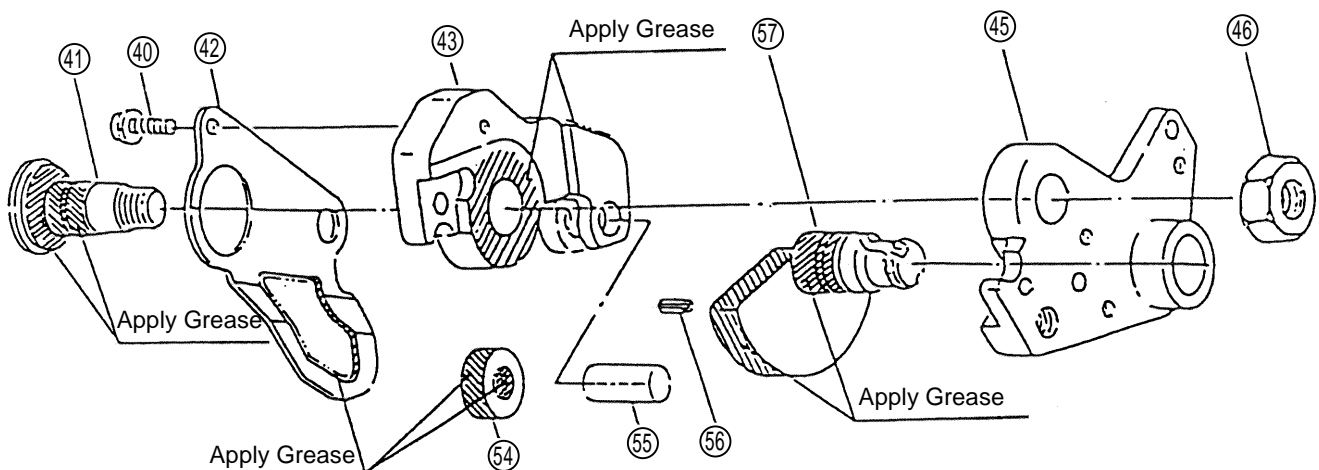
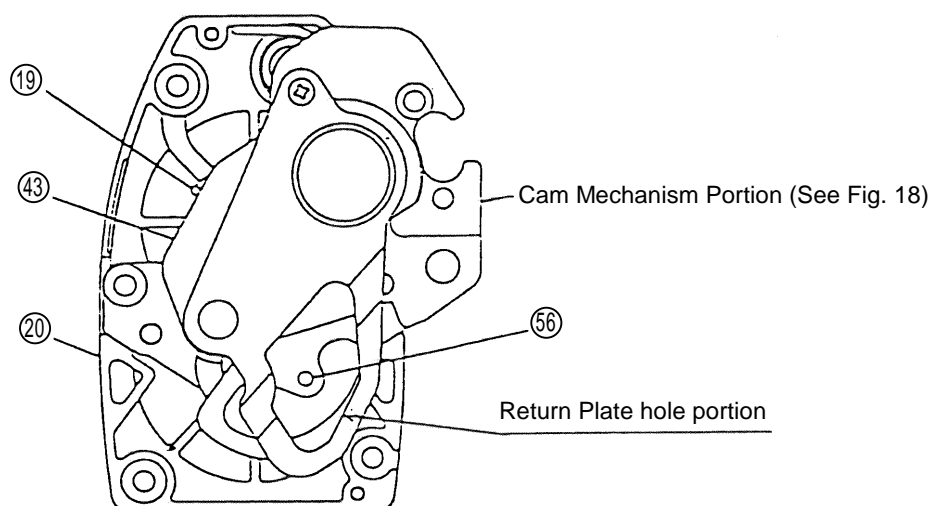

Fig. 18 Cam Mechanism Section
Fig. 19
(3) Reassembly of the Cam Mechanism and Related parts:
- (a) Application of Grease: (See Fig. 18)
Apply Molub Alloy #771-1 grease to the shaft, holes, and both side surfaces (portions marked by hatching and broken-dot lines) shown in Fig. 18. In particular, liberally apply grease to the grooves on the inner periphery of the hole in Roller (A) ⑤④.
- (b) Press Fitting of Bolt (A) ④①:
- When press-fitting Bolt (A) ④① into Bracket (B) ④⑤, be very careful to ensure correct assembly procedures.
- Press fit the D4 x 14 Roll Pin ⑤⑥ into the Cam Shaft ⑤⑦, ensuring that it contacts the innermost part of its retaining hole. (See Fig. 18)
- Fasten the Return Plate ④② to Bracket (A) ④③ with the single M4 x 12 Machine Screw w/Seal Lock Spring Washer ④④. (See Fig. 18)
- Insert the Cam Shaft ⑤⑦ - assembled as described in Para. (i) above-into Bracket (B) ④⑤. (See Fig. 18)
- Insert the assembled components described in Para (ii), above, so that the D4 x 14 Roll Pin ⑤⑥ of the Cam Shaft ⑤⑦ fits into the hole of the Return Plate ④②. (See Fig. 19)
- Press fit Bolt (A) ④① fully into Bracket (B) ④⑤ (See Fig. 18). At this time, there should be clearance between Bracket (A) ④③ and Bracket (B) ④⑤, and between the Return Plate ④② and Bolt (A) ④① to accommodate dimensional tolerance. (0.03 - 0.25 mm between Bracket (A) ④③ and Bracket (B) ④⑤; 0.025 - 0.050 mm between the Return Plate ④② and Bolt (A) ④①).
- (c) As the strength of the M12 Lock Nut ④⑥ is very important, particular attention should be given to ensure correct tightening torque.
- Install the Return Spring ①⑨ into the Gear Cover ②⑩. (See Fig. 19)
- When installing the Cam Mechanism assembled as described in para. (b) and (c) into the Gear Cover ②⑩, connect the Return Spring ①⑨ to Bracket (A) ④③. (See Fig. 19)